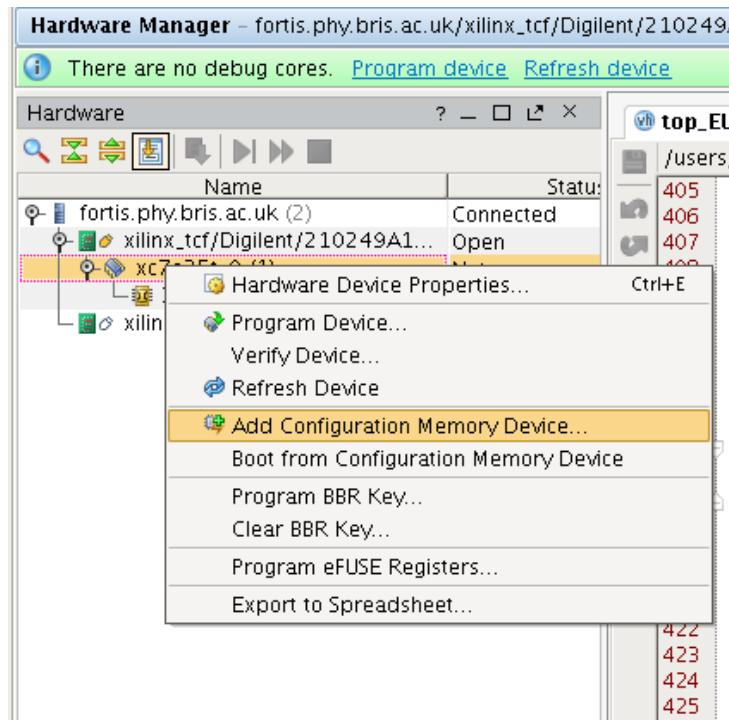
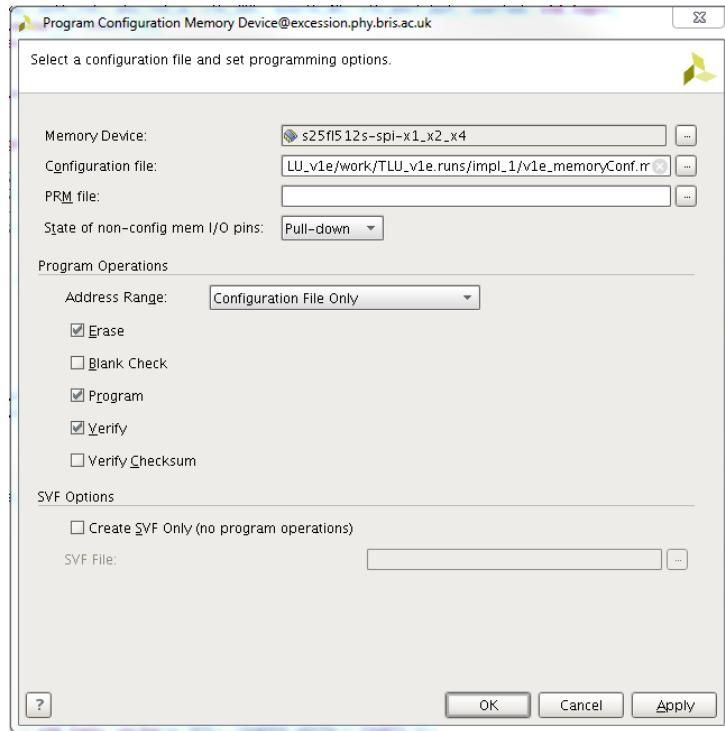

Figure 1.4: Program interface.
Figure 1.5: **EEPROM** interface. The options shown in the picture are suitable to configure the device correctly.
4. Right click on the FPGA (typically `xc7...`) and select Program device (see figure 1.4)
The procedure to write a permanent program in the EEPROM is very similar to the one followed to write a bit stream file, with the exception that the user should select Add configuration memory device in the options, as shown in figure 1.4. This will open a new window, shown in figure 1.5, from which it is possible to indicate the file to use (with extension .mcr). Make sure that the options are set as shown in figure 1.5.